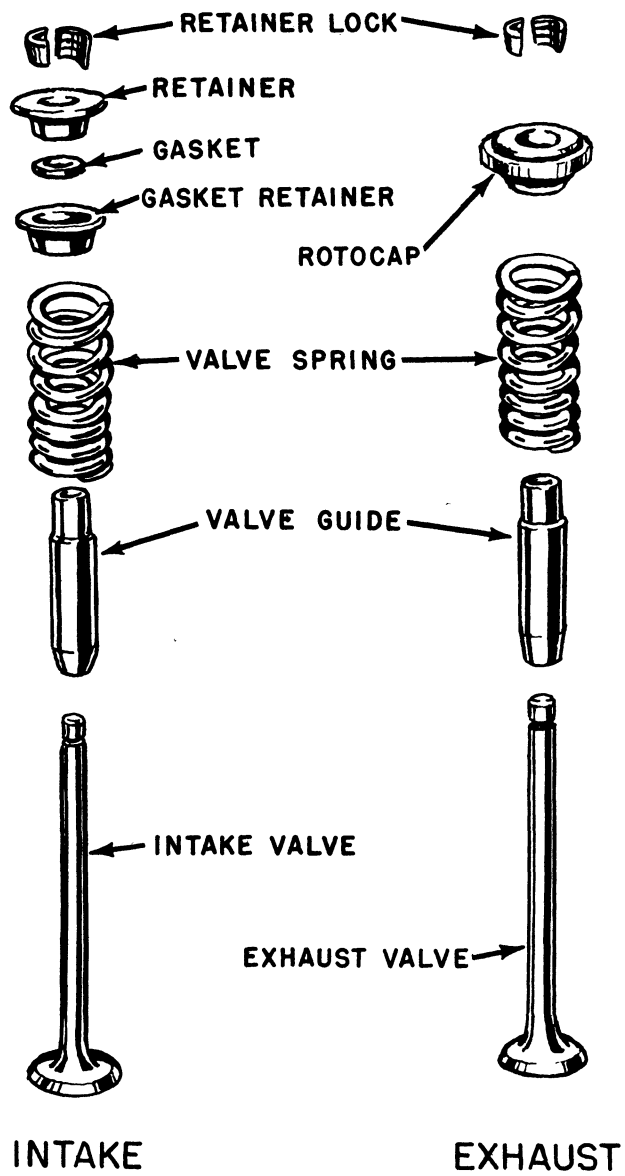

Figure 16 - Valve Assembly
5. Note that the intake valves have a rubber gasket retainer which prevents oil from being sucked into the combustion chamber on the intake stroke of the piston. Figure 16.